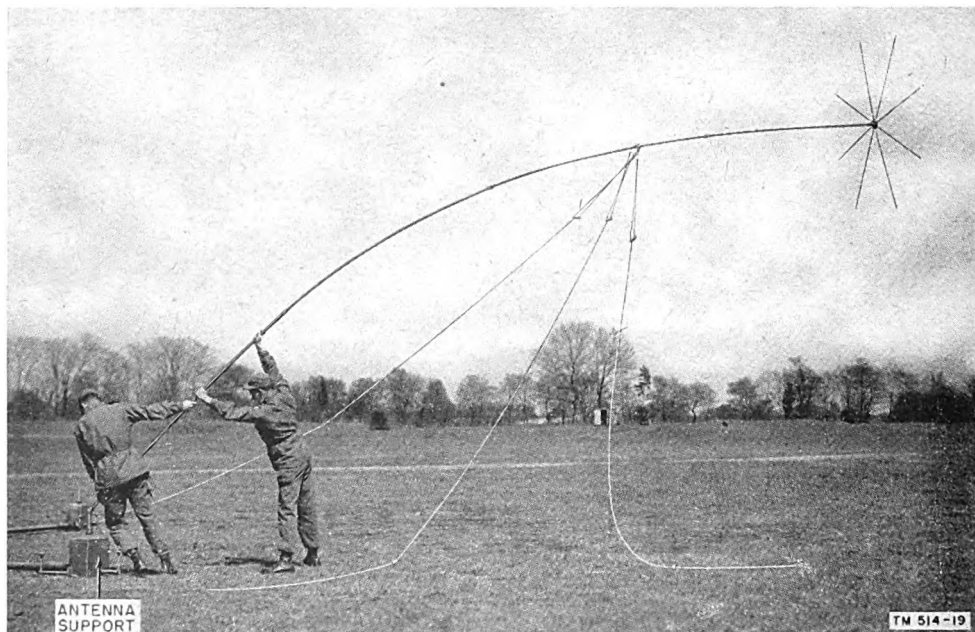

Figure 35. Raising a mast.
h. MAST ERECTION (fig. 35).
- (1) Raise the mast to a vertical position